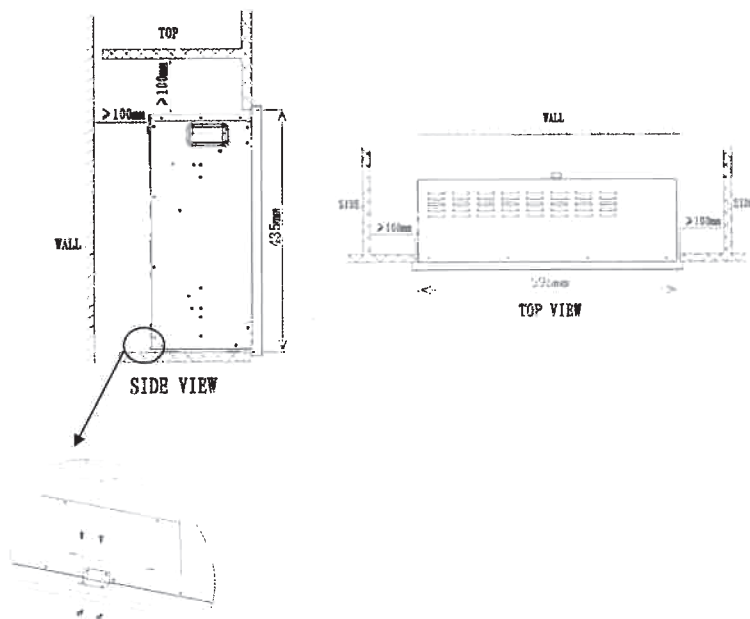

Fig 1
- Fix the fireplace with the fixing bracket and screw (see Fig.1 in circle)